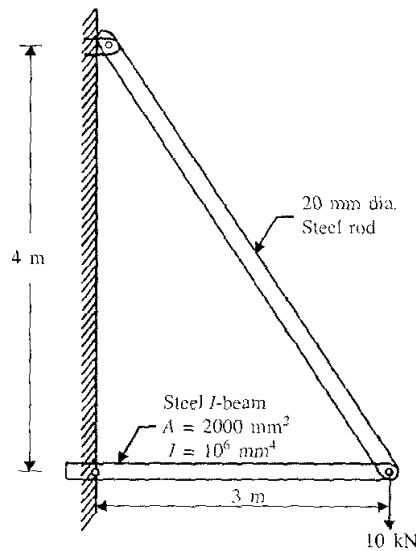

Fig 5
- (b) Consider the frame structure made of steel as shown in Fig.5. Determine the deflections using the frame element. The elemental details are given in the Table 1 below. 06